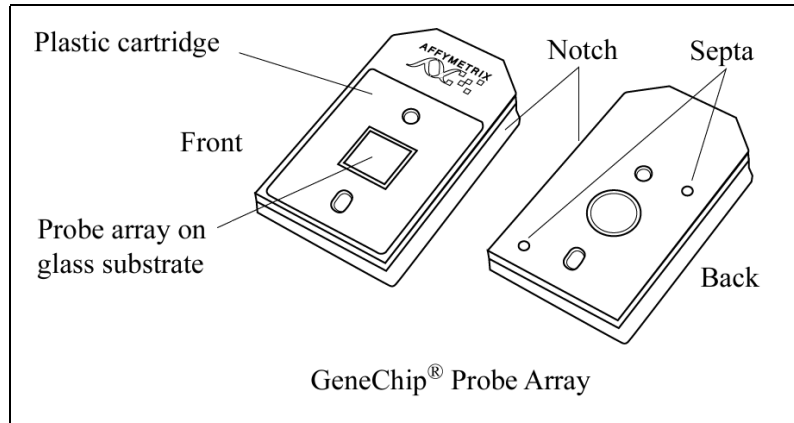

Figure 3.1
4. Inject ~ 200 µL of the specific sample into the array through one of the septa (see Figure 3.1 for location of the septa on the array). Save the remaining hybridization cocktail in –20°C for future use.